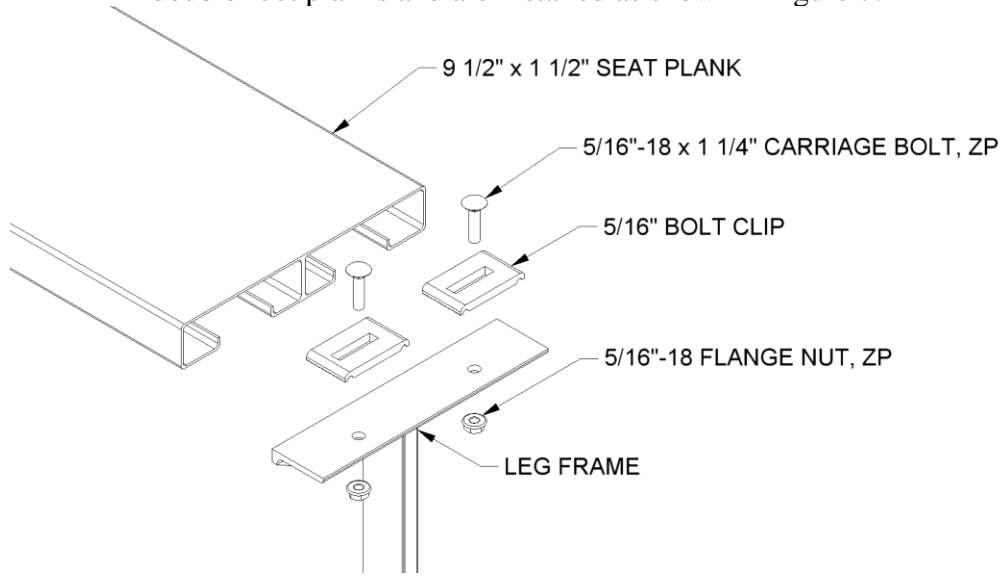
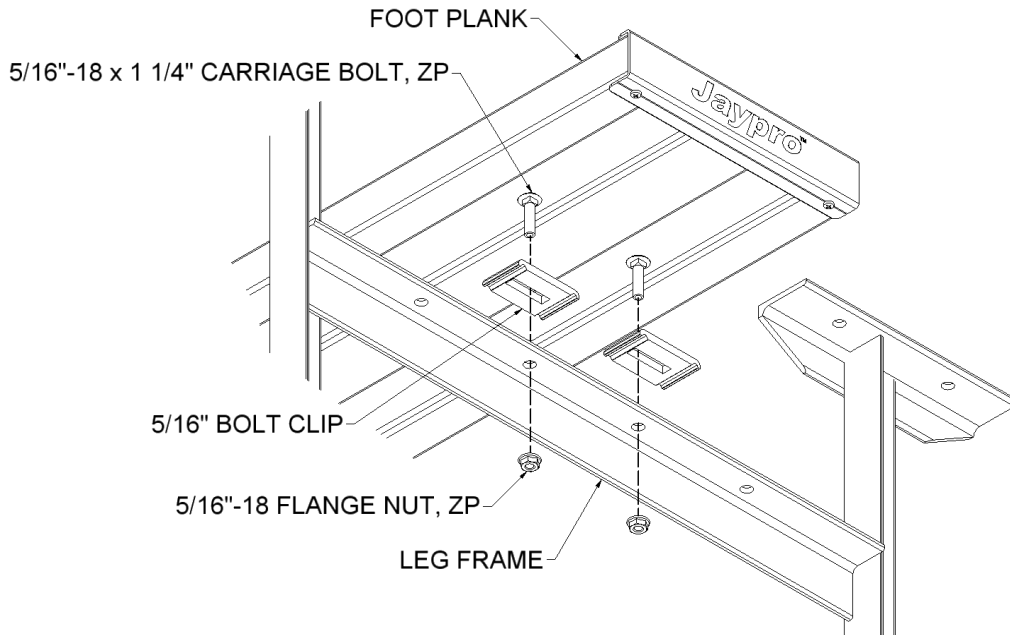
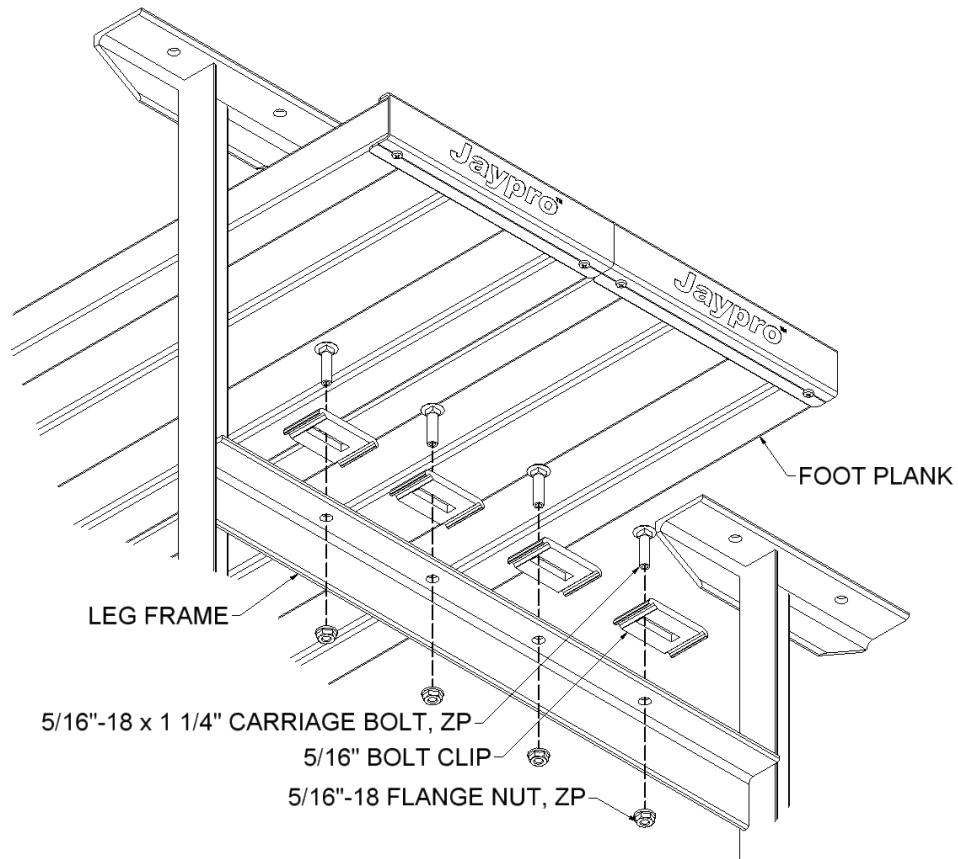

FIGURE: 5
FIGURE: 6
FIGURE: 7
5. Making sure the undercarriage frame is square and plumb, install the seat and foot planks. The seat and foot planks are best installed starting from the front seat and working towards the back. Use the hardware and bolt clip as shown in figure 5. Position planks so they are centered on the frame, with equal amount of overhang on each end. Note that standard bleacher (BLCH-275TRG) have a single foot plank, which is centered on the support frame, see figure 6. Preferred bleacher (BLDP-275TRG) have double foot planks and are installed as shown in figure 7.